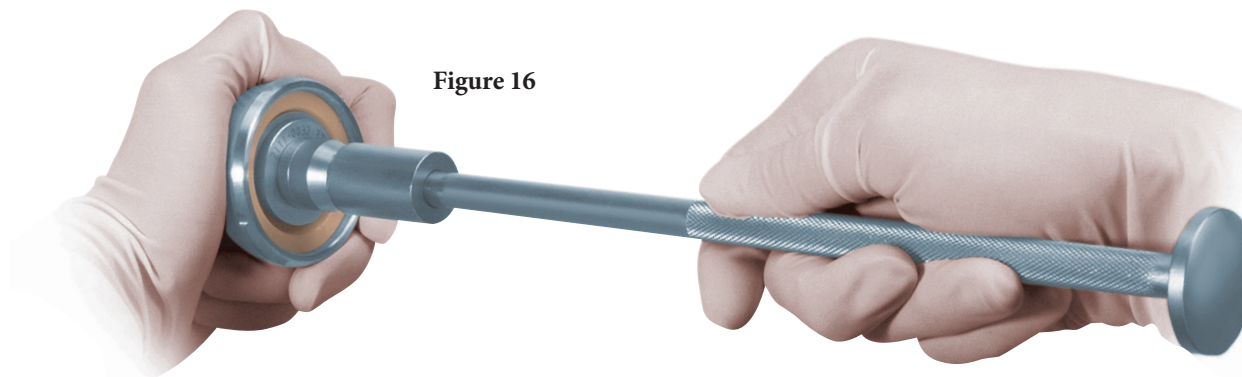

Figure 16
3. Load either the polyethylene or ceramic insert onto the Insert Positioner Tip. Press firmly to ensure insert is being securely held (Figure 16).